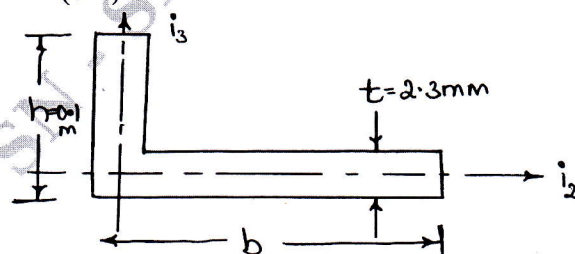

Fig.Q.4(b)
- b. Find the principle centroidal bending stiffness of the beam shown in Fig.Q.4(b). the axial stiffness of section is  $S = Et(bth)$ . (10 Marks)